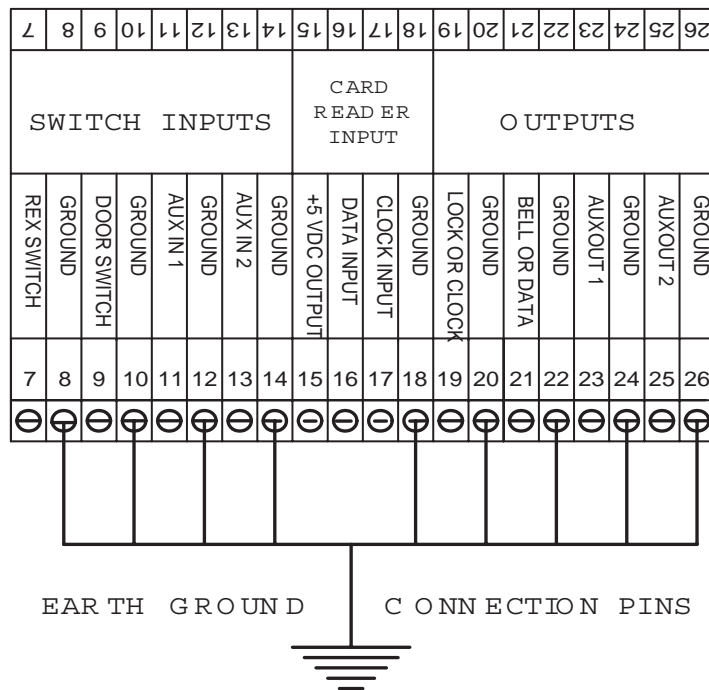

Figure 17-3: Earth Ground Connection Terminals
- Figure 17-3 on page 79 provides connection points for ground